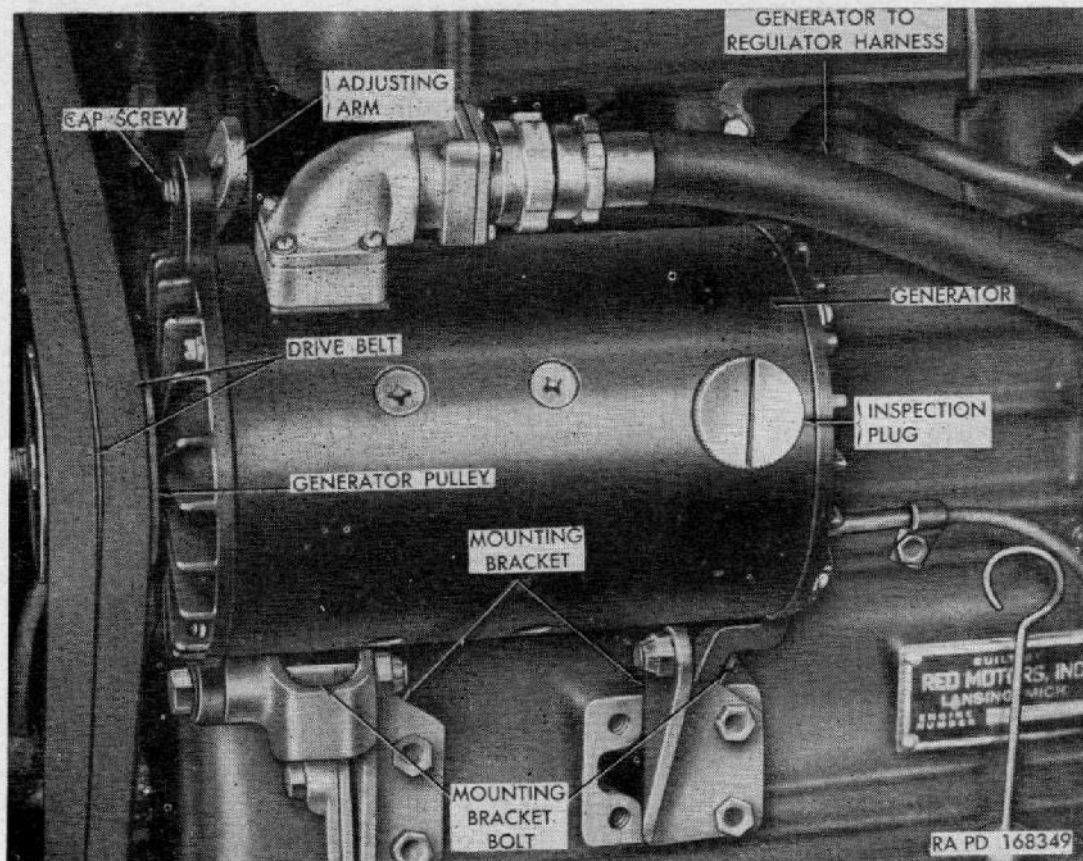

Figure 82. Generator—installed.
- (3) *Generator.* The watertight generator is a four-pole, four-brush, shunt unit. Generator is mounted on left side of engine (fig. 82) and is driven by belts from the crankshaft.
a. INSPECTION (fig. 82). Remove generator-inspection plug and inspect commutator. If commutator is rough, out-of-round, burned, or has high mica, generator must be replaced.
c. **INSTALLATION** (fig. 82). Lower generator into place and install two mounting bracket bolts (one at each end) attaching generator to mounting bracket. Install two nuts but do not tighten. Place drive belts over generator pulley. Install generator-to-adjusting-arm cap screw. Adjust drive belts (par. 122) and tighten nuts on mounting bolts. Polarize generator (*d* below).